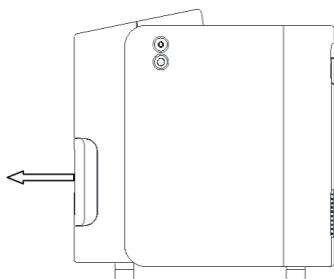

Figure 5
- Pull out the humidification bottle gently along the direction shown in the figure,pull out the rubber plug at the top and add cold the purified water of exceeding the maximum water leve, (Figure 5)